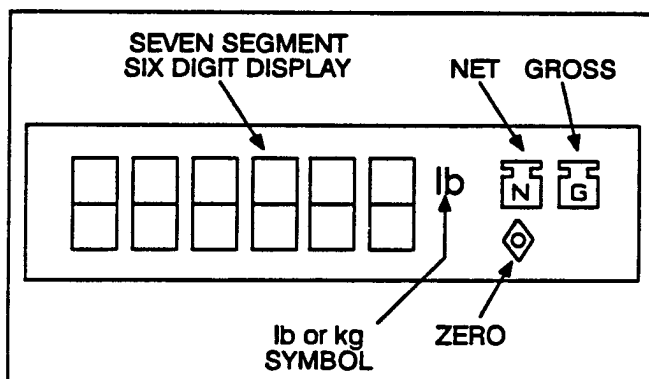

Figure 1
2.1.1 **Display PCB** - The display uses a low power custom liquid crystal display (LCD). Digits are 17.5mm (0.7 in.) in height. In addition to displaying data, the Display PCB accepts input data from the keyboard, regulates the wall transformer input power, and contains the solid state on/off switching circuitry. A layout of the display and an explanation of the symbols are shown below (Figure 1).